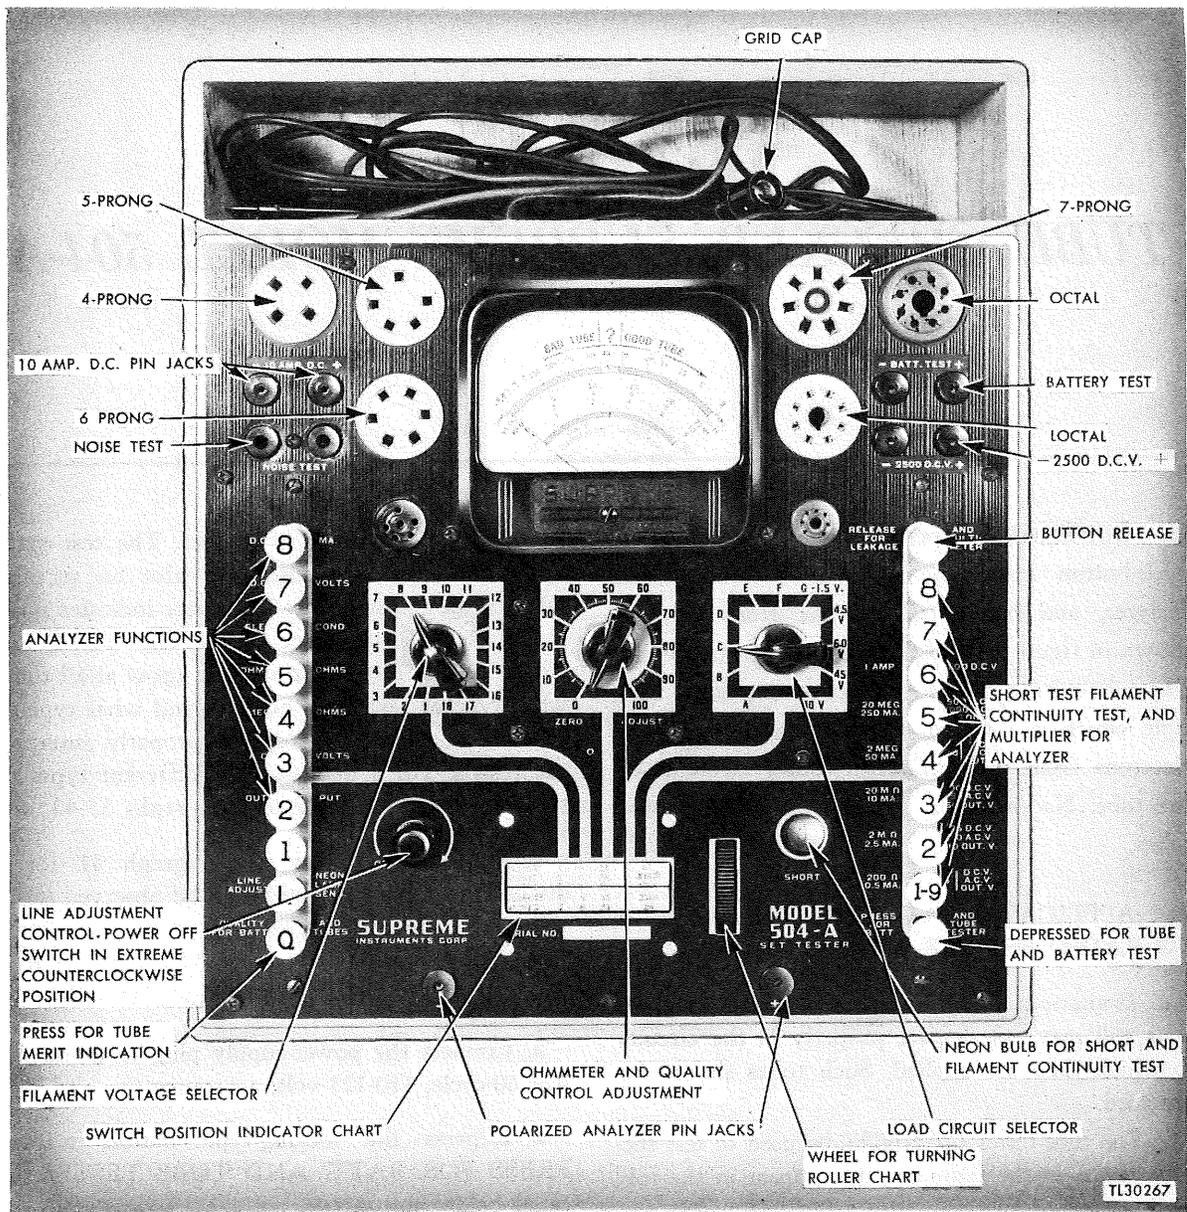

Figure 18. Tube checker, Supreme model 504-A, panel view.
68. **GENERAL.** Supreme model 504-A is a push-button operated, combination tube tester, analyzer, and battery tester. The front view is shown in figure 18 and the schematic in figure 19. The tube-testing circuit employs the emission principle which is a test of the tube's ability to emit electrons from the cathode to other elements of the tube. No provision is made for testing acorn tubes.
a. *Limitations.* (1) Tubes that appear good in tests still may not operate properly in the circuits to which they are applied. Such tubes should be replaced.